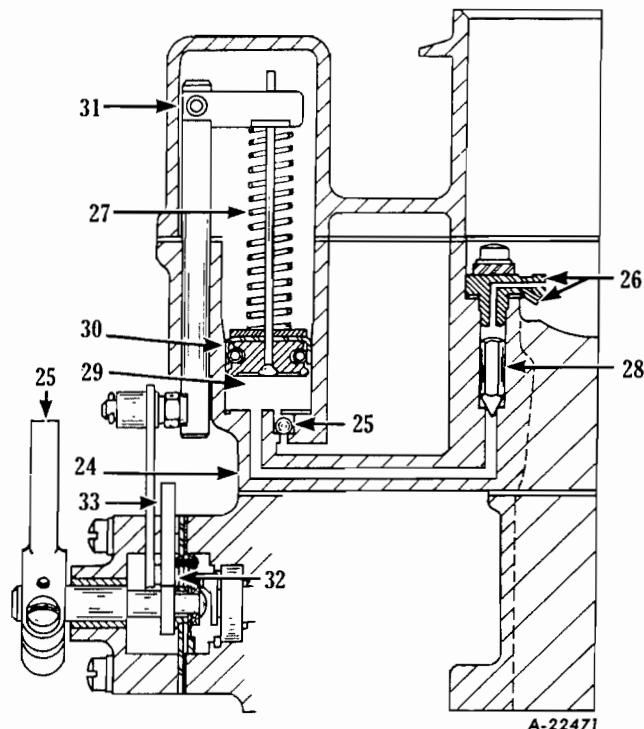

Fig. 3
The accelerating pump shown in Fig. 3 is connected to the throttle shaft by means of link (33) and operating lever (32). The function of the accelerating assembly is to temporarily enrich the mixture for rapid acceleration. The fuel is drawn into the pump chamber (29) through pump inlet check valve (25) on the upward stroke of pump piston (30) when closing the throttle. When the throttle is opened, the pump piston (30) moves downward, closing the pump check valve (25) and forcing the displaced fuel through passage (24) to raise the pump discharge valve (28). The accelerating fuel charge then goes around the valve and out the pump discharge nozzle (26).